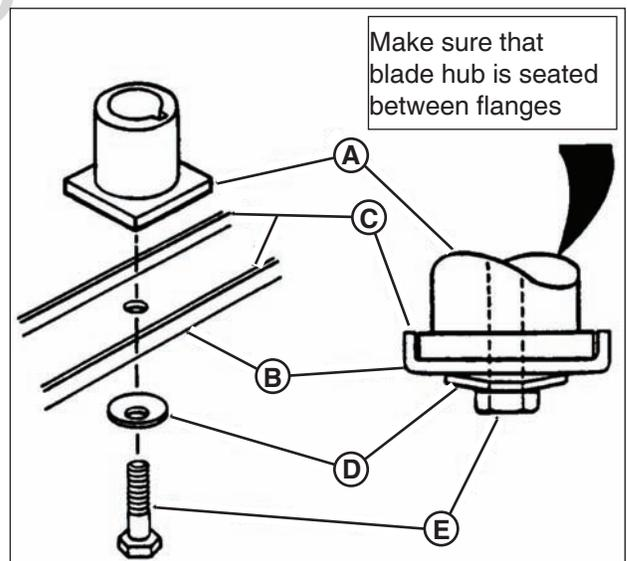

Figure 20: Removing the mower blade
3. Remove the blade (**B, Figure 20**).
- Reinstall blade (**B, Figure 20**). Note the correct assembly order:
- (A) Blade hub
- (B) Blade
- (C) Blade flange (facing up)
- (D) Cone washer (concave side up)
- (E) Capscrew